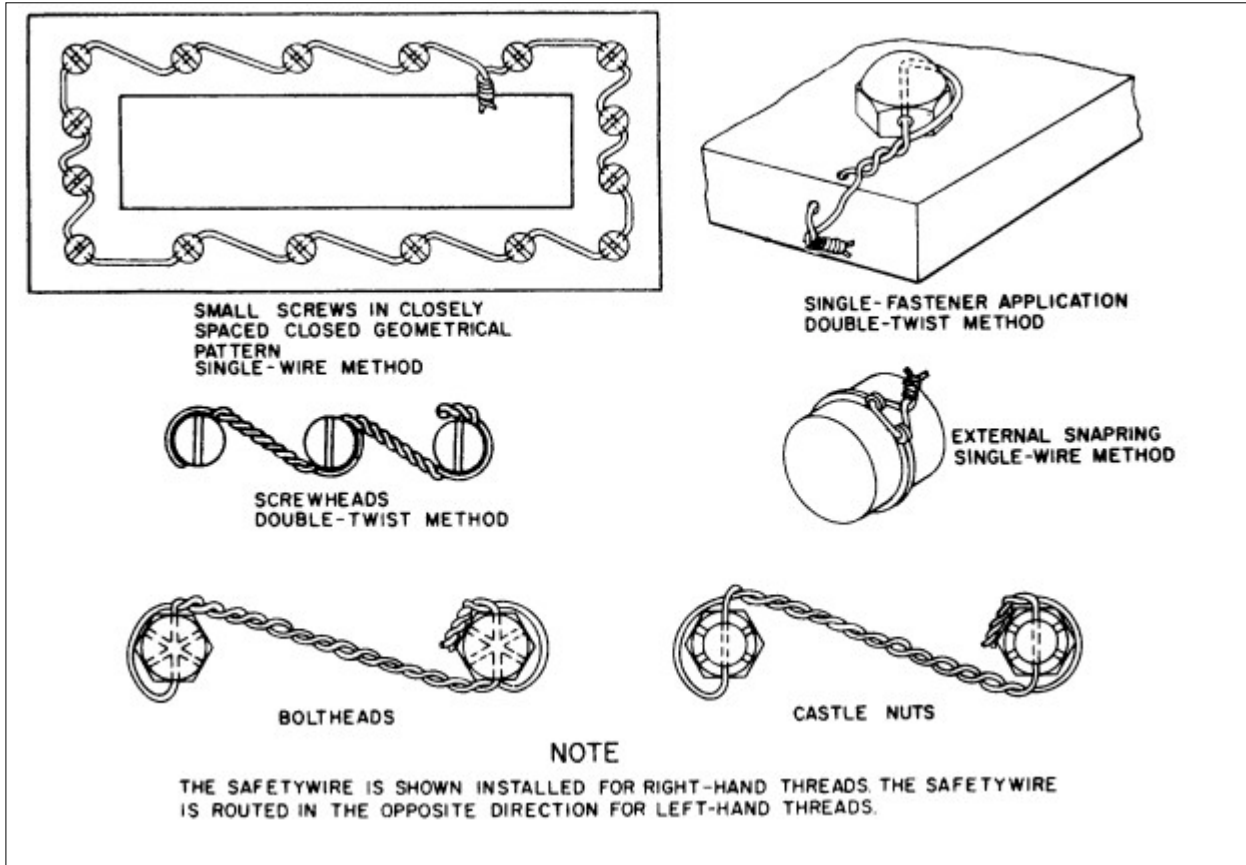

FIGURE 7-3. Securing screws, nuts, bolts, and snaprings.
**a. There are two methods of safety wiring;** the double-twist method that is most commonly used, and the single-wire method used on screws, bolts, and/or nuts in a closely-spaced or closed-geometrical pattern such as a triangle, square, rectangle, or circle. The single-wire method may also be used on parts in electrical systems and in places that are difficult to reach. (See figures 7-3 and 7-3a.)